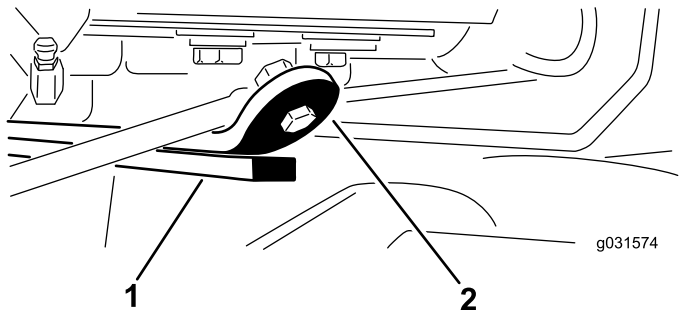

Figure 13
3. Start the engine, raise the cutting units, and ensure that the clearance between the wear strap on the top of the rear-cutting-unit wear bar and the bumper strap is 0.51 to 2.54 mm (0.02 to 0.10 inch) as shown in Figure 13.